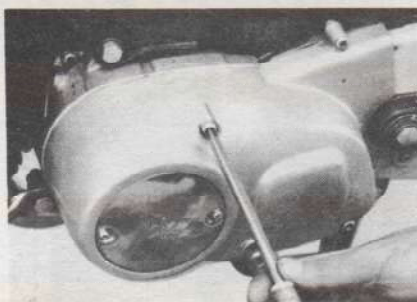

Fig. 3-13
10. Remove the left crankcase cover. (Fig. 3-13)